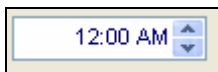

Figure 16.1.18C
14. Click on the **Time** box and use the **UP** and **DOWN** arrows to set the time that you want this schedule to stop (Figure 16.1.18C).